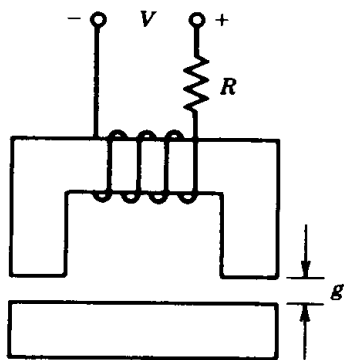

FIGURE P3.7
3.7 The electromagnet shown in Fig. P3.7 can be used to lift a sheet of steel. The coil has 400 turns and a resistance of 5 ohms. The reluctance of the magnetic material is negligible. The magnetic core has a square cross section of 5 cm by 5 cm. When the sheet of steel is fitted to the electromagnet, air gaps, each of length $g = 1$ mm, separate them. An average force of 550 newtons is required to lift the sheet of steel.